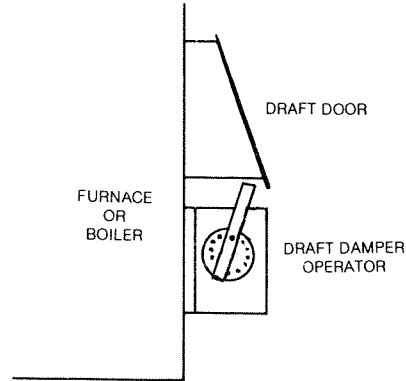

Fig. 7 — Typical location of draft damper operator with arm
2. Locate the operator beneath the draft damper as shown in Fig. 7 positioning it so the extreme rotation of the arm will open (raise) the damper the required amount. The arm must physically engage the draft damper when the operator is energized.